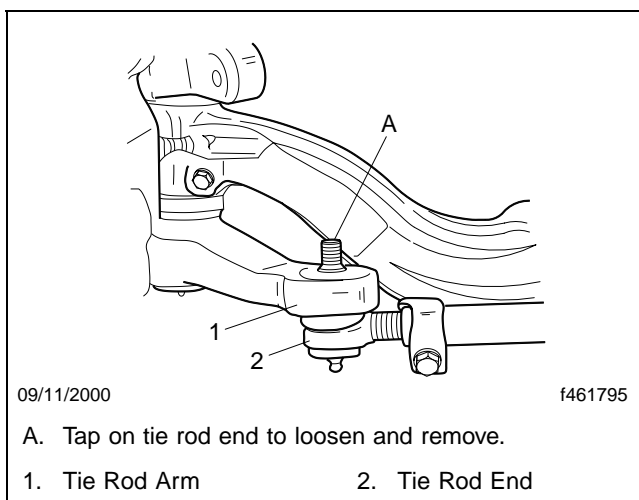

Fig. 1, Tie Rod End and Tie Rod Arm
4. If necessary, tap on the tie rod end to loosen it from the tie rod arm. See **Fig. 1**.